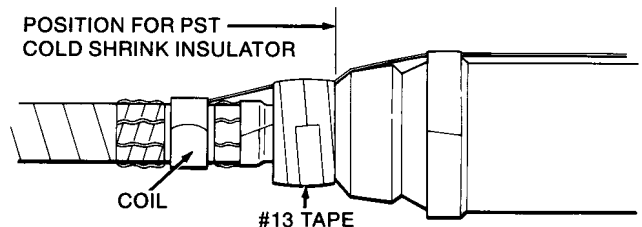

Figure 11
- d. Apply two half-lapped layers of #13 Tape over the mastic pad and the smaller diameter portion of the end cap (Figure 11).